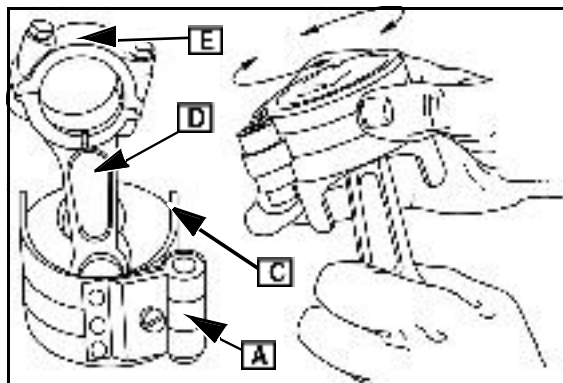

Fig. 19
3. Place piston and ring compressor upside down on bench with projections ([C] Fig. 19) on compressor facing rod.
6. Remove connecting rod cap (E) from connecting rod ([D] Fig. 19), if installed.